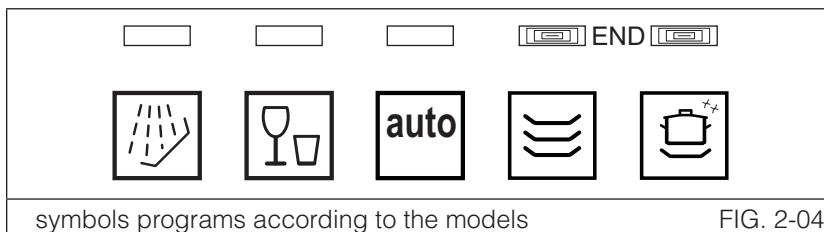

FIG. 2-04
At the end of the program, the dishwasher emits a short beep and the indicator lights of the fourth and fifth program (ref. pr. 4, pr. 5 fig. 2-04) flash. Turn off the appliance by opening the door and pressing the on/off button (ref. 1 fig. 2-02).